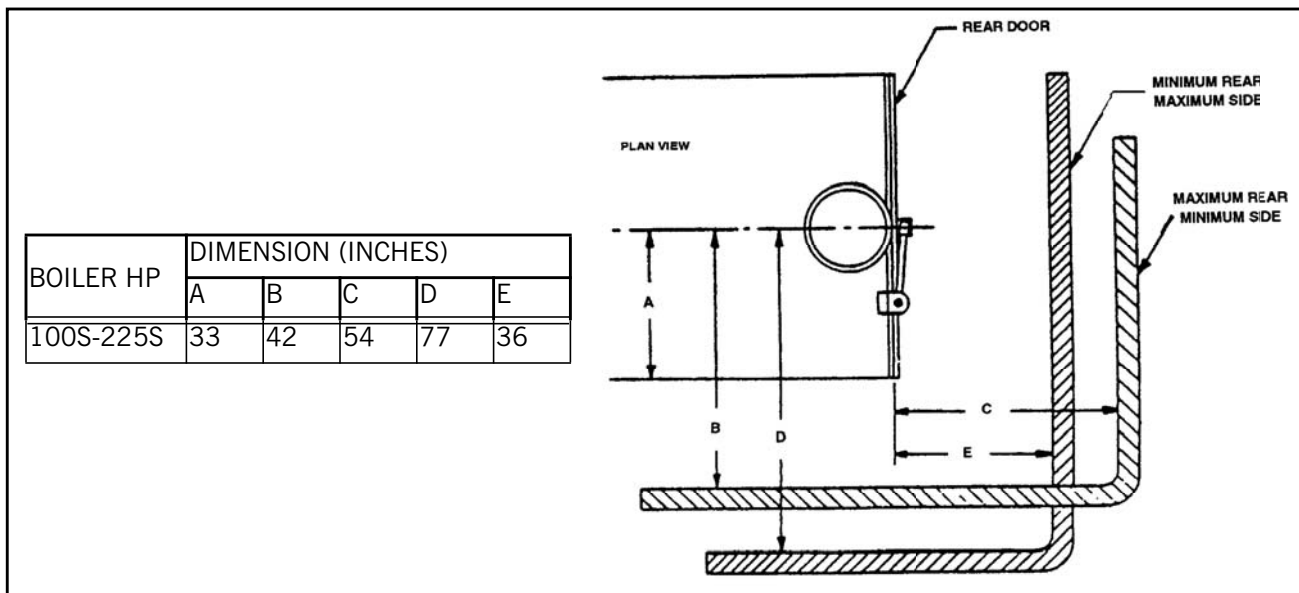

Figure 1. Space Required to Open Rear Head
- Figure 1. Model CEW Ohio Special Boiler Space Requirements to Open Rear Door